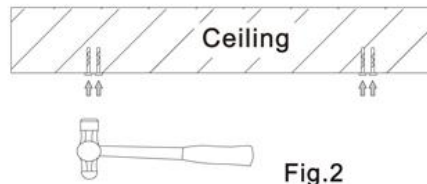

Fig.2
- Step 2: Knock the plastic expansion into the hole which you drill. (as Fig.2)